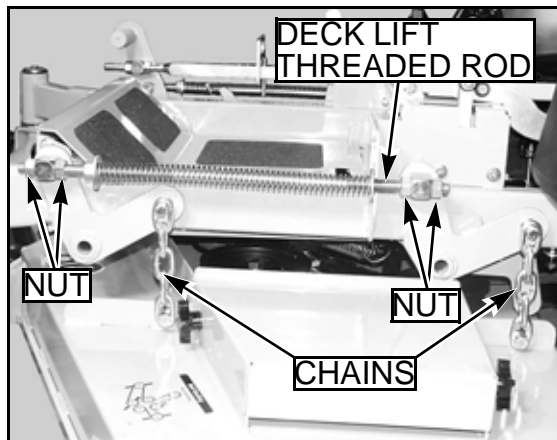
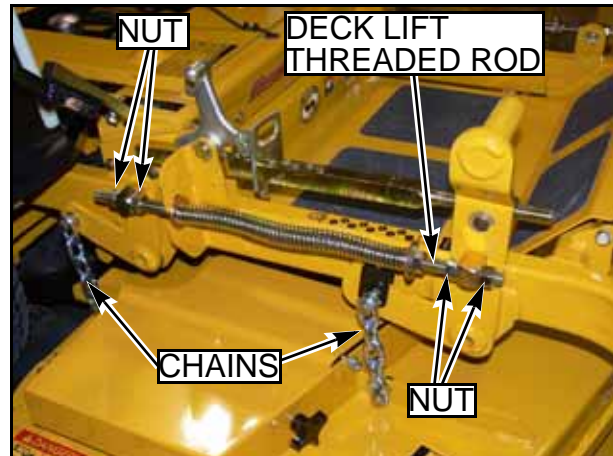
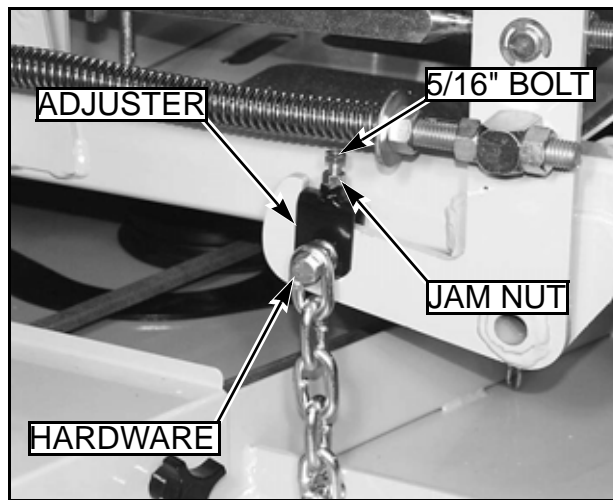

FIG. 62
FIG. 63
FIG. 64
6. Loosen all nuts on the deck lift threaded rods, and the hardware on the adjuster (on the right front), until **all** the deck lift chains are loose, **and** the deck is sitting tightly on all four blocks "FIG. 62", "FIG. 63", "FIG. 64".
14. Loosen the 5/16" jam nut on the adjuster lift chain "FIG. 64", and back the adjuster bolt out to allow the adjuster to move up and down freely.
17. Tighten the adjuster bolt jam nut to prevent the adjuster bolt from moving "FIG. 64"
20. Make sure that there is still slack in the chain. If not, loosen the two nuts on the block holding the threaded rod until there is slack in the deck lift chain "FIG. 63".
24. Make sure that there is still slack in the chain. If not, loosen the two nuts on the block holding the threaded rod until there is slack in the deck lift chain "FIG. 62".